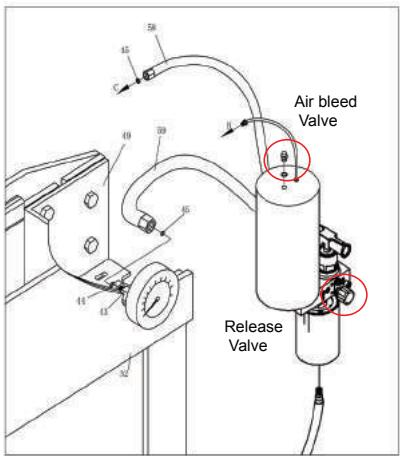
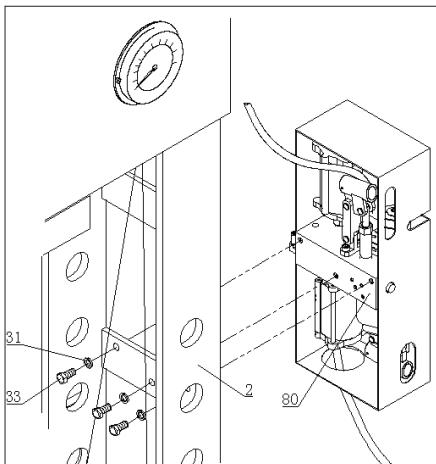

Fig.07
Fig.09
- Move the pump assy, Fig.07 ( WP75P ), Fig.09 ( WP100P ), to the outside of the post, use bolt and washer which dismantled just now to twist tight on the right connecting plate .
- Open the release valve, by turning it in an anti-clockwise direction, and open air bleed valve, Fig.07.